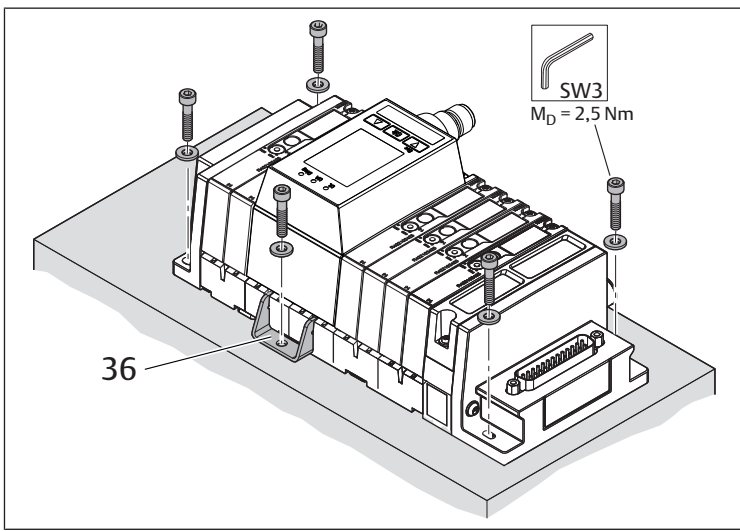

Fig. 11: Fastening the valve system with retaining brackets, example
- ▶ To stabilize the valve system, install additional retaining brackets (36) (see Fig. 11). The valve system does not need to be disassembled for this step. Rule of thumb: If there are 17 valve positions or more, an additional retaining bracket is required for every additional 8 valve positions. Example: